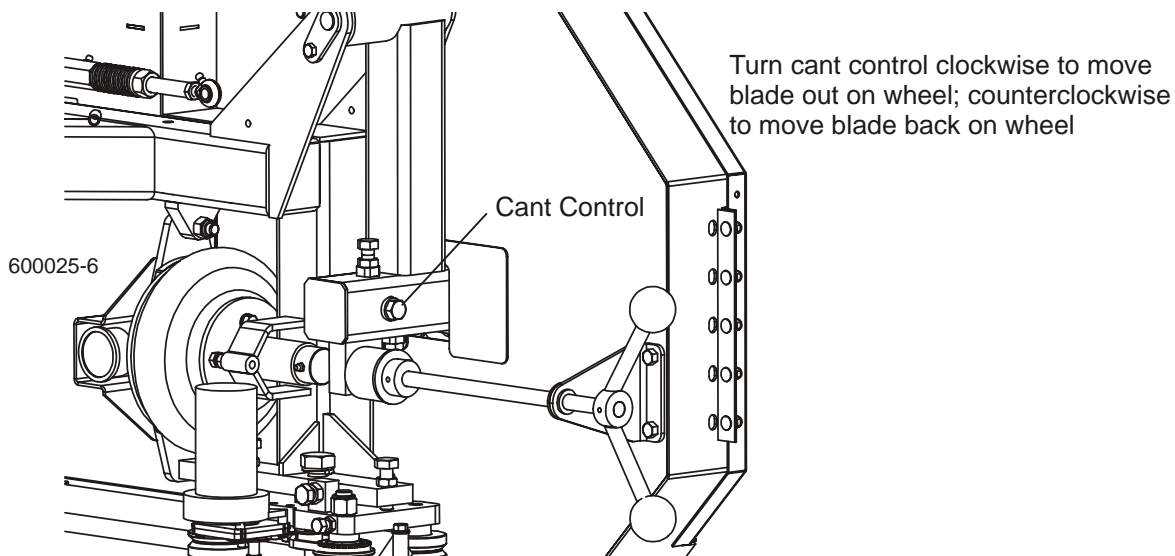

FIG. 7-21
**See Figure 7-21.** Use the cant control adjustment to adjust the idle-side blade wheel. If the blade is too far forward on the wheel, turn the cant control counterclockwise. If it is too far back on the wheel, turn the cant control clockwise.